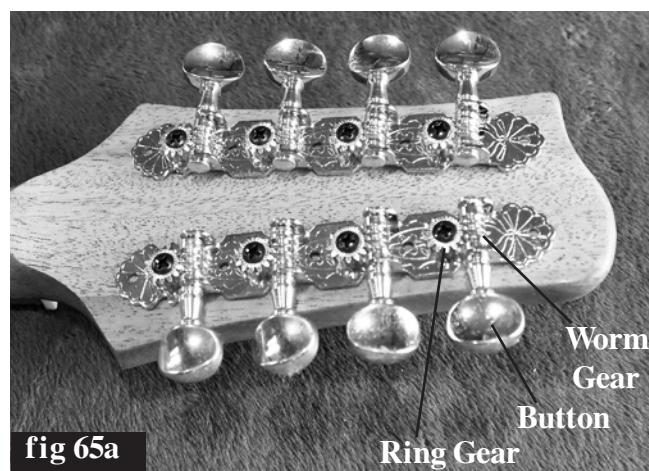

fig 65a
**65.** Find the geared tuners and push them into the back of the peghead, being careful to orient them on the proper sides (fig 65a).